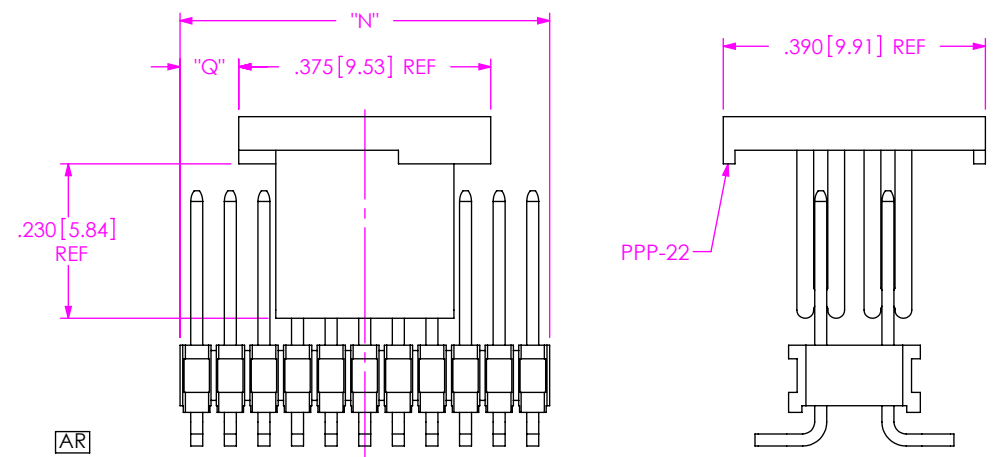

FIG 3
- P: PICK & PLACE PAD (USE PPP-22) (SEE FIG 3, SHT 2) [5 POS MIN]